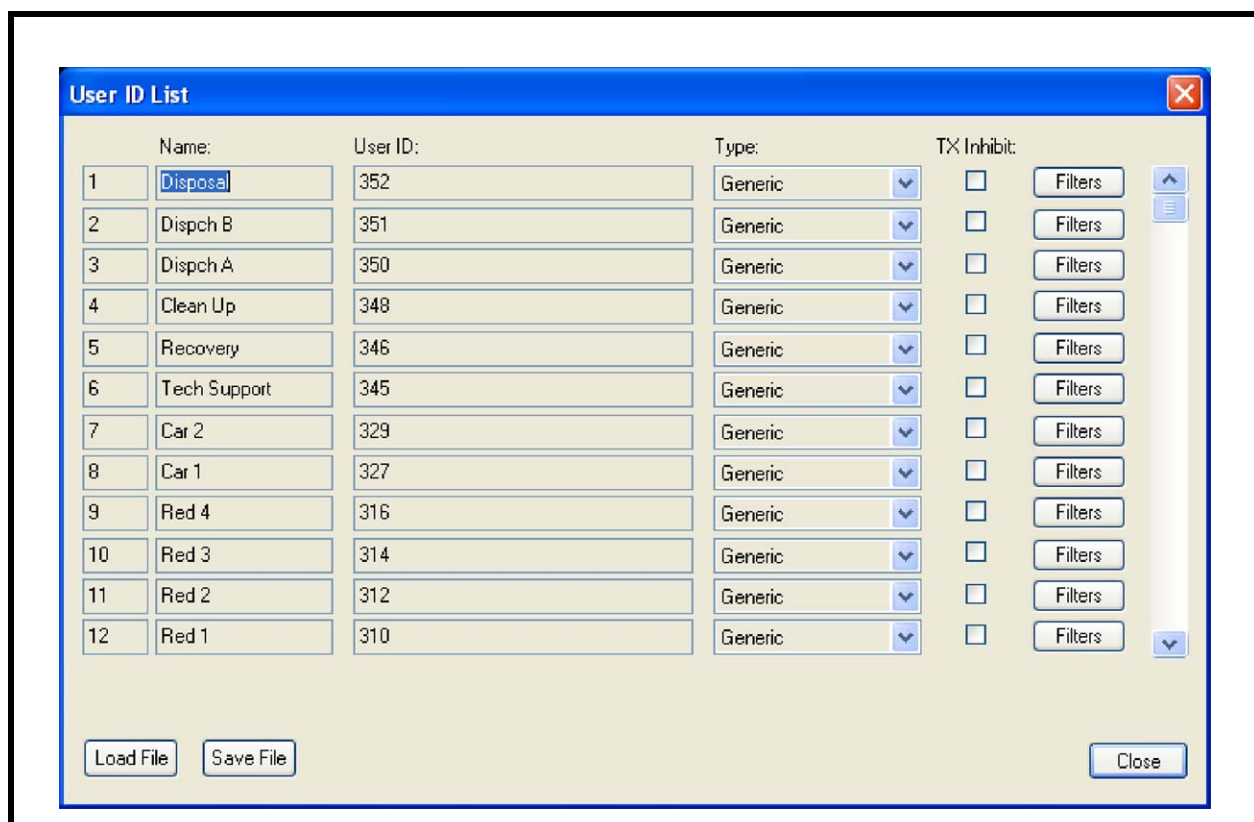

FIGURE 26. User ID List—C-Soft
- Shortened dialing can be used here, if specified within the attached TETRA radio, see Figure 26.